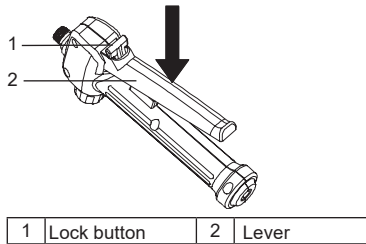

Figure 12
3. Press and hold the lever down to start spraying. Refer to Figure 12.